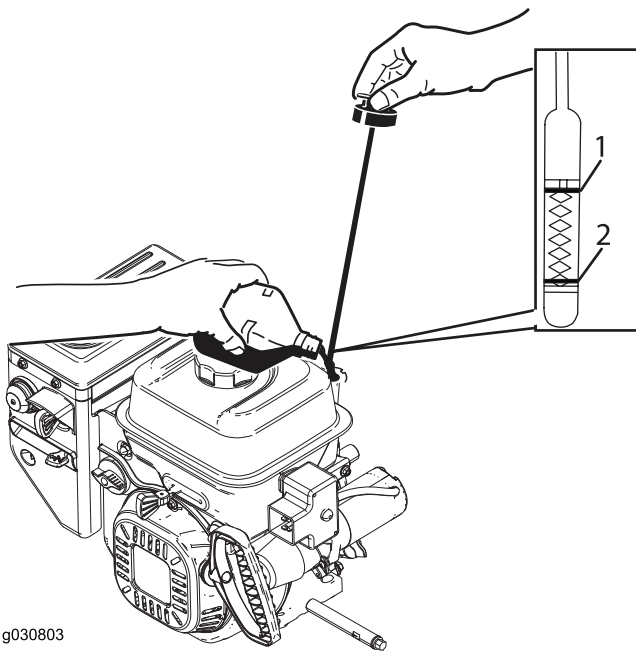

Figure 13
- Remove the dipstick and **slowly** pour oil into the oil fill tube to raise the oil level to the Full mark on the dipstick. **Do not overfill.** (Figure 13).